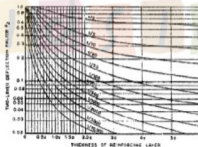

Fig. Q2 (b)
- b. A plate load test conducted with 0.3 m diameter plate on subgrade and on a pavement of thickness 0.4 m sustained pressure of 0.10 MN/m² and 0.40 MN/m² respectively at 5 mm deflection. Design the pavement section for 50 kN wheel load and contact pressure of 0.70 MN/m² for an allowable deflection of 8 mm using Burmister's approach. If you want to maintain the deflection of 6.5 mm, what would be the required thickness? Use the chart in Fig. Q2 (b). (12 Marks)